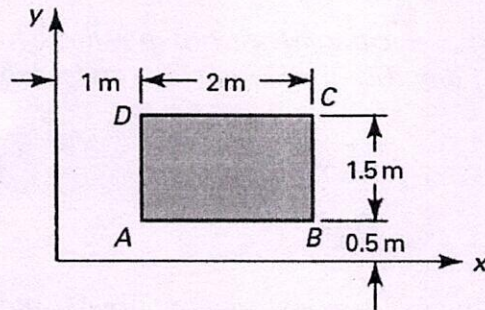

Figure 3
Q.3 Rectangle ABCD is inscribed on the surface of a member prior to loading, see Figure 3. Following the application of the load, the displacement field is expressed by